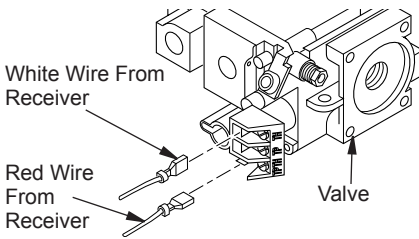

Figure 20 - Connecting Wires
5. Connect wires as shown in Figure 20.